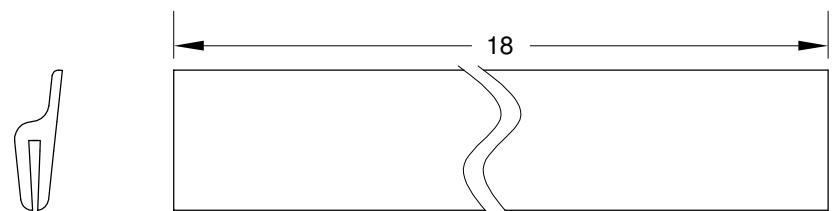

FIGURE 2: CREATING THE GAP SEAL
Step 6: Cut and install a piece of Rubber Channel to create the F-1094C Gap Seal as shown in Figure 2. This will allow extra material to account for material shrinkage over time and allow extra material so the ends can be trimmed to match the **F-1094A** Empennage Gap Cover.